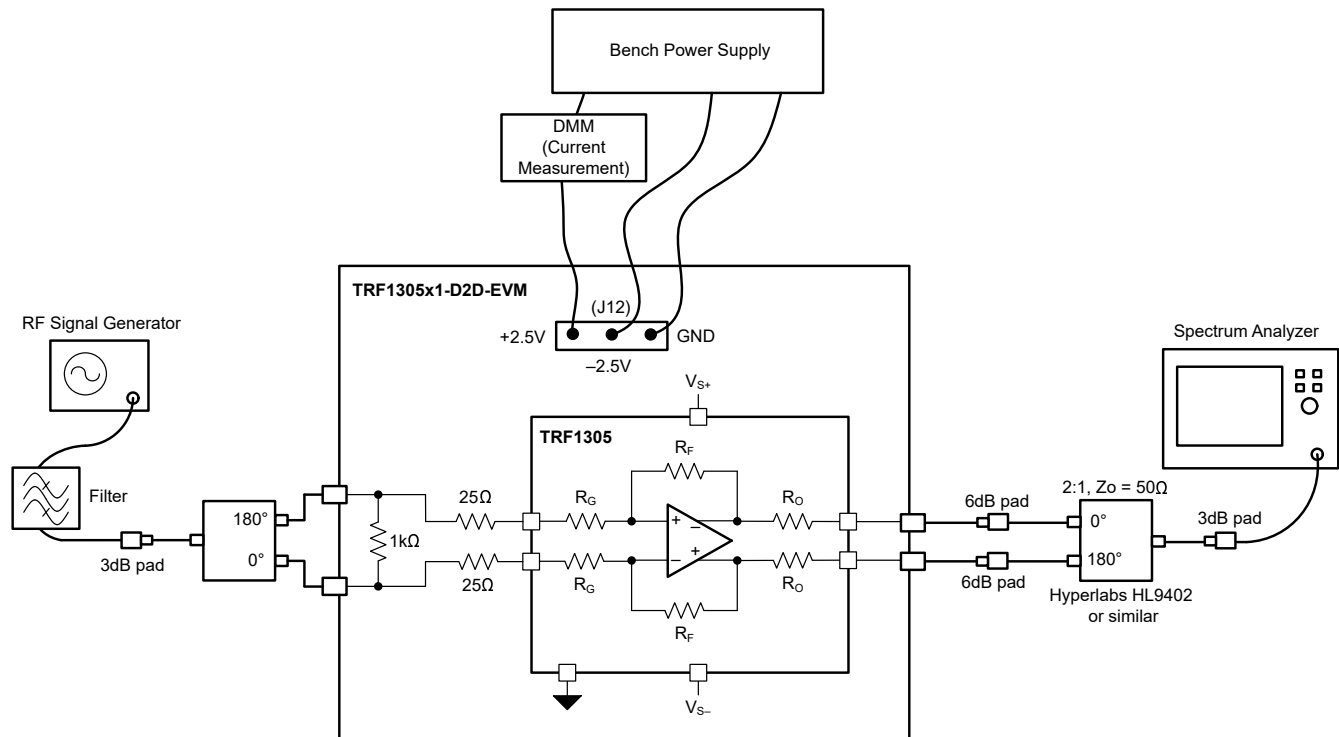

Figure 2-1. Single-Tone Setup for Gain and Output P1dB
This section provides general usage information for the TRF1305x1-D2D-EVM. See Figure 2-1 for a general single tone setup diagram as a reference point for the following instructions (some components, such as supply bypass capacitors, are omitted for clarity):
- a. Single ended signal from RF signal generator is converted to a differential signal using an external passive balun as shown in Figure 2-1. Differential signal is fed to input SMA connectors, J1, J2. When measuring single tone distortion, use an RF band pass filter as shown in Figure 2-1.
- e. When connecting to a spectrum analyzer, the differential signal out of the EVM must be converted to a single-ended signal using an external passive balun as shown in Figure 2-1. Use of an attenuator pad of approximately 3dB to 6dB is recommended at the three terminals of the passive balun to minimize reflections.